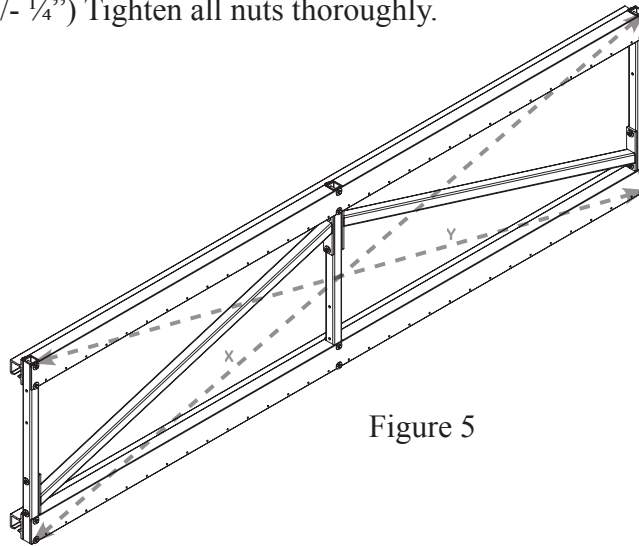

Figure 5
- Square the gate by measuring from corner to corner on frame as shown in Figure 5. Dimensions “X” and “Y” should be equal (+/- 1/4”) Tighten all nuts thoroughly.